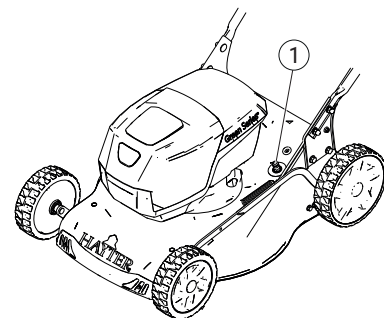

Figure 20
5. Attach a garden hose that is connected to a water supply to the easy-wash port (Figure 20).